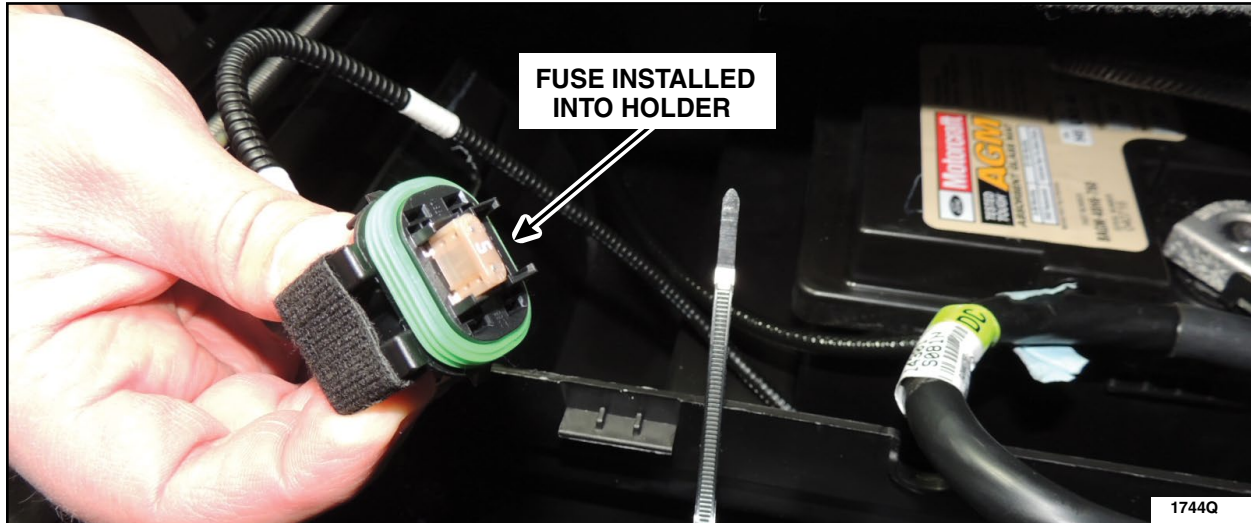

FIGURE 17
1. Install the *new* 5 amp fuse into the *new* inline fuse holder and install the fuse cover (components G) until it clicks into place. See Figures 17 and 18.